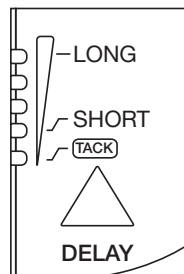

Fig. 13a ADF G5-01
- In order to see the current delay setting, quickly press and release the DELAY + or – button. The current delay number will blink. To change the delay, press the + or – button repeatedly to move the flashing LED up or down to the desired delay (Fig. 13a and 13b).
- On ADF G5-01, the tack weld (TACK) setting is used to reduce eye strain from repeated, short bursts of arc and the eye having to constantly adjust to different light levels. After each darkening, the ADF will revert to Shade 5 (instead of shade 3). If continued arcs are struck within 2 seconds, the ADF will continue to cycle between the desired shade and Shade 5. If a new arc is not struck within 2 seconds, the ADF will revert to its normal light state of Shade 3 (Fig. 13a).